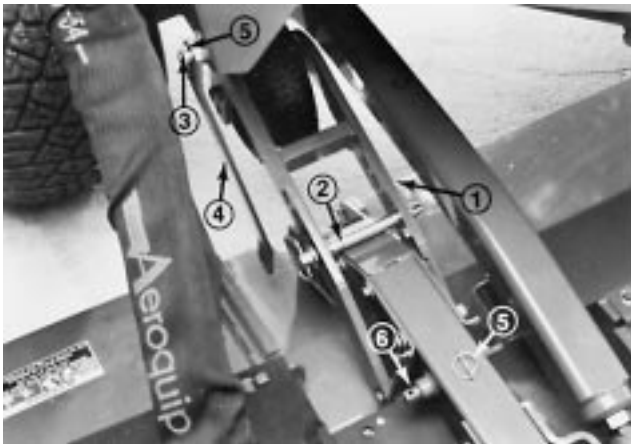

Figure 59
3. Remove hairpin cotters and clevis pins from the (2) rear castor assemblies (Fig. 58). Set the left hand clevis pin aside and insert the right hand clevis pin into the most forward holes in the castor wheel arm on the right side of the unit (Fig. 59). The castor arm and pin should be resting on top of the unit.
5. Fit deck tilt link over weldment on the right side of traction unit and secure with klik pin. Position link so it clears when cutting unit is raised. Keep remaining klik pin handy to secure opposite end of link to cutting unit arm weldment (Fig. 59).